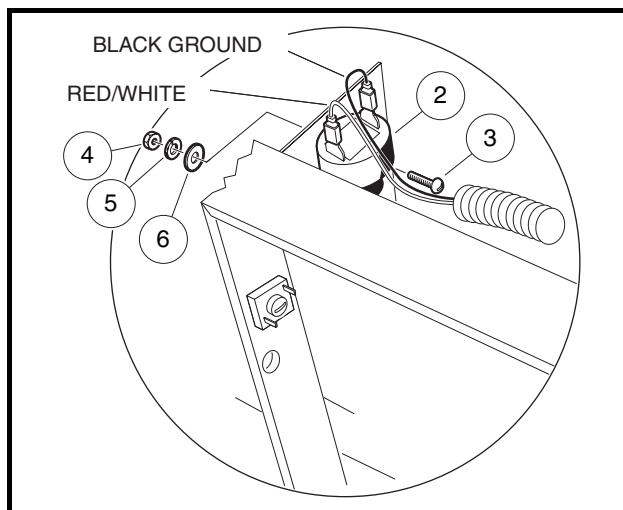

Figure 12-22 Front Reverse Warning Buzzer
5. Disconnect the wires from the reverse warning buzzer (2) (**Figure 12-22, Page 12-19**).
6. Remove the screw (3), nut (4), flat washer (6), and lock washer (5) securing the buzzer to the vertical frame support.
1. Install the screw (3) through the buzzer (2) bracket tab and frame for front and/or rear warning buzzer, secure with hardware, and tighten to 14 in-lb (1.6 N·m) (**Figure 12-22, Page 12-19**). **See following NOTE.**